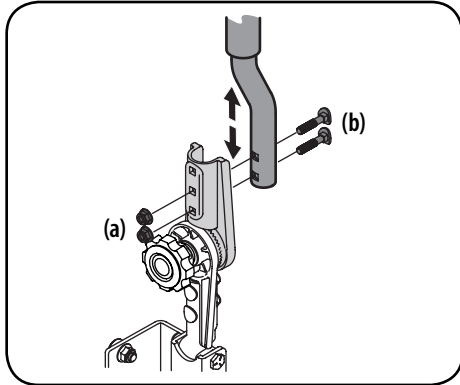

Figure 2-4
- Remove the flange lock nuts (a) that secure the carriage bolts (b) in the drive control levers. See Figure 2-4.